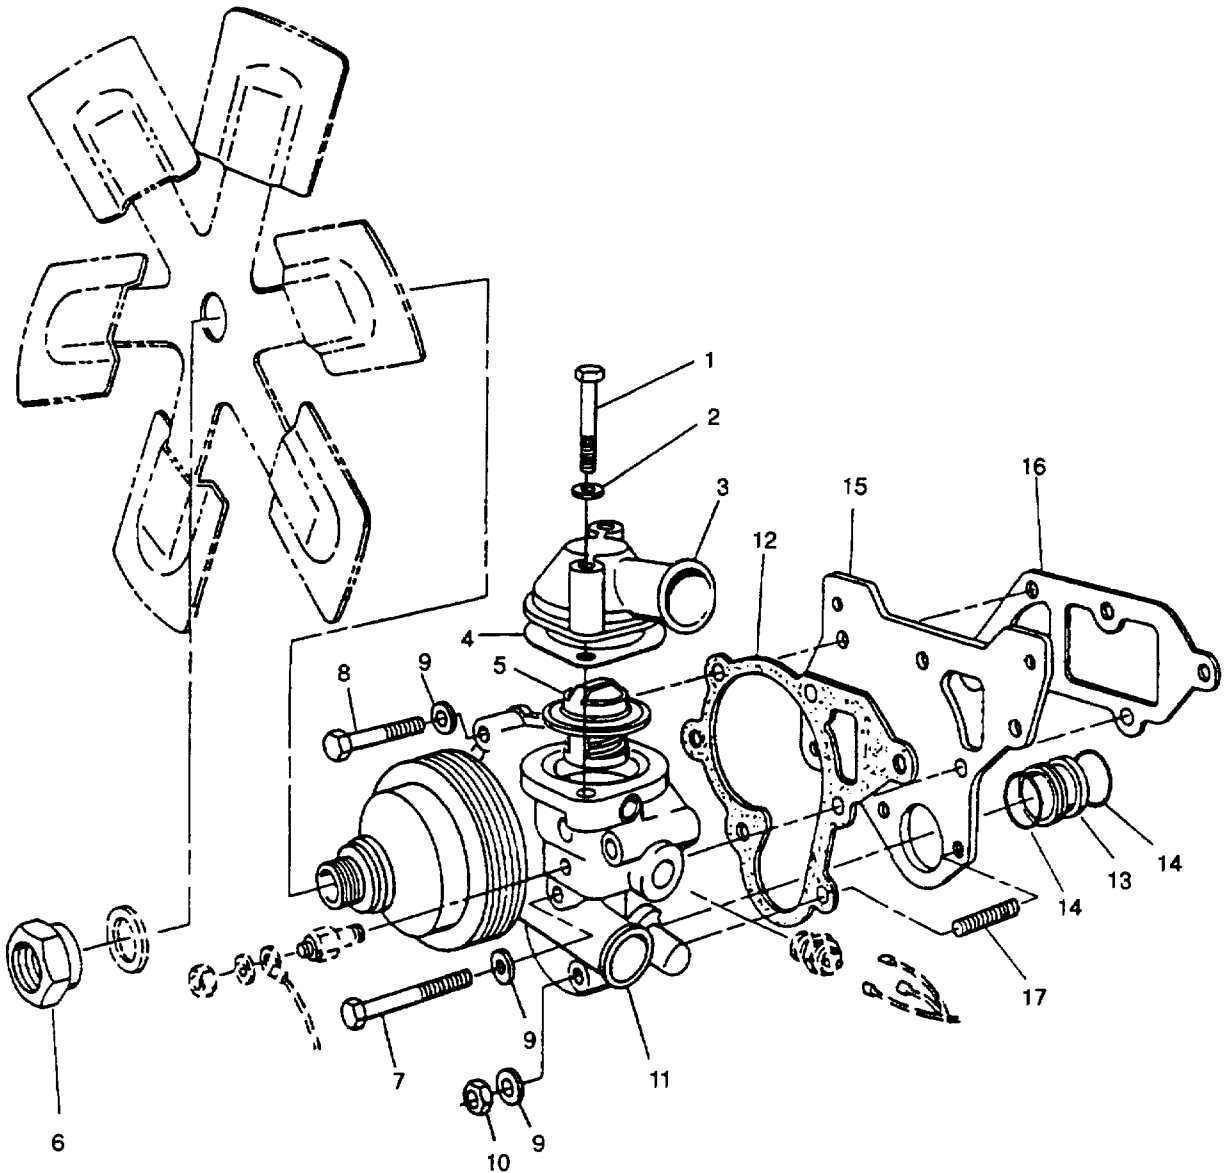

FIGURE 3-4. Cooling System
- c. Loosen hose clamp and disconnect outlet hose from thermostat housing (3, FIGURE 3-4).
- d. Remove two capscrews (1), washers (2), thermostat housing (3), and gasket (4). Discard gasket (4).
- e. Remove thermostat (5) from water pump.
- b. Clean any debris and traces of old gasket from thermostat housing (3, FIGURE 3-4) and water pump (11) mating surfaces. Dry all surfaces.
- c. Install thermostat (5) in water pump.
- d. Install new gasket (4), thermostat housing (3), two washers (2), and capscrews (1).
- e. Connect outlet hose to thermostat housing (3) and secure with hose clamp.
**Nut (6, FIGURE 3-4) has left hand threads.**
- c. Remove nut (6), washer, fan, and fan belt.
**Identify location of two shorter capscrews (8) for use during installation.**
- f. Remove five capscrews (7 and 8), two nuts (10), and seven washers (9).
- g. Slide water pump (11) with thermostat (5) and housing (3) attached, from mounting studs (17). Remove and discard gasket (12).
- h. Remove sleeve (13) and two performed packings (14) Discard performed packings.
- i. Remove mounting plate (15) and gasket (16). Discard gasket.
- j. If damaged, remove two mounting studs (17).
**If two water pump studs (17, FIGURE 3-4) have been removed, they must be installed and finger tightened. Do not overtighten as this will cause thread damage preventing a flat sealing surface.**
- c. If removed, install two mounting studs (17) finger tight.
- d. Install two new preformed packings (14) and sleeve (13).
- e. Install new gasket (16), mounting plate (15), new gasket (12), and water pump (11).
- f. Secure pump to crankcase with seven washers (9) , two nuts (10) and five capscrews (8 and 7). Install two shorter capscrews (8) as noted during removal. Tighten hardware to 186 in-lbs (21.0 Nm).
**Nut (6) has left hand threads.**
- i. Install fan belt, fan, washer, and nut (6). Tighten nut (6) to 20 to 24 ft-lbs (27 to 32 Nm).